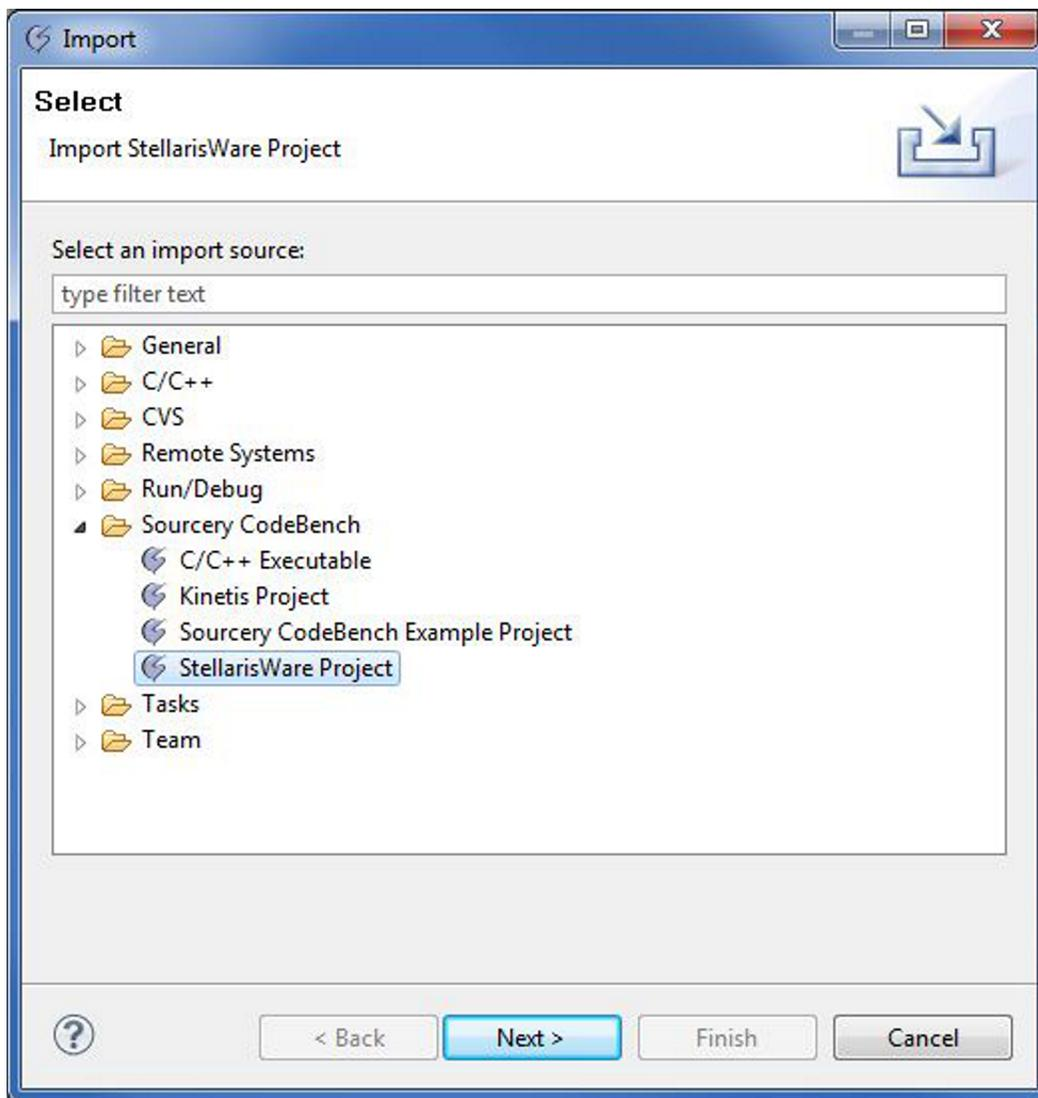

Figure 3.
2. Highlight StellarisWare or TivaWare Project in the Import dialog (see Figure 3).